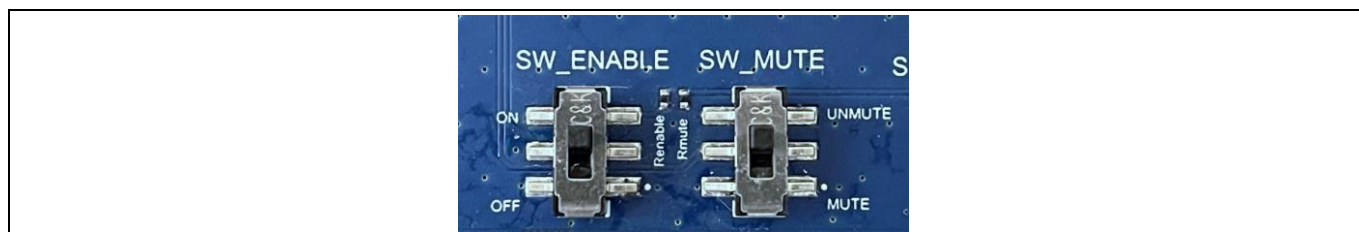

Figure 5 MA2304xNS ENABLE and MUTE switches
4. Set the **SW_ENABLE** switch to **ON** and **SW_MUTE** to **UNMUTE**, as shown in Figure 5.